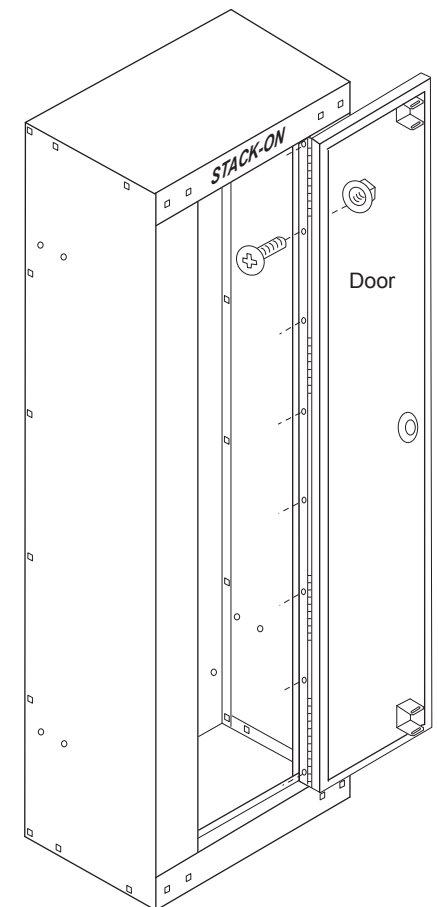

Figure 5
Align the door hinge holes with the cabinet holes. Assemble with (8) machine screws and locking nuts. (See figure 5)